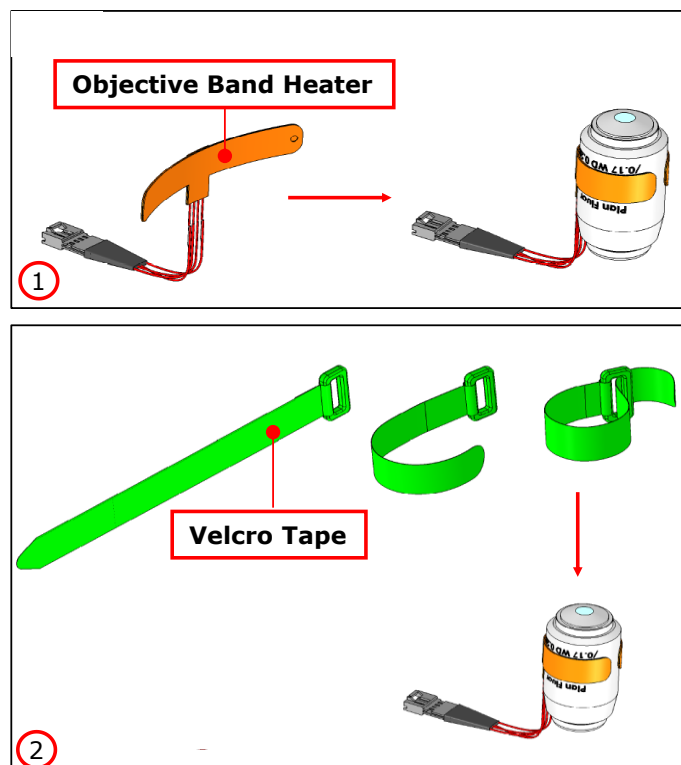

Figure 21. OBJ-COLLAR - Assembly.
1. Assembly the OBJ-COLLAR around the objective heater (see Figure 21).